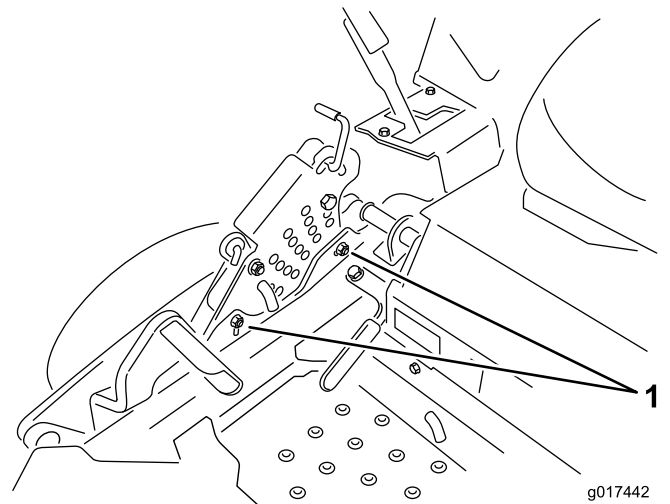

Figure 74
12. To adjust the single point system, loosen the two bolts at the bottom of the height of cut plate. Refer to Figure 74.
14. Tighten the two bolts at the bottom of the height of cut plate (Figure 74). Torque to 37-45 N-m (27-33 ft-lb).